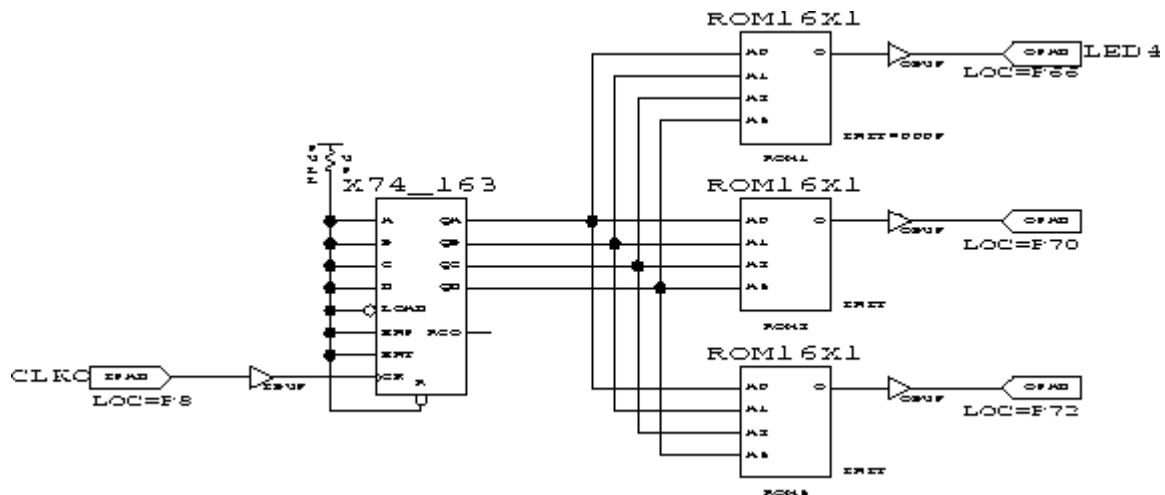

Figure 4: Three ROMs
We have entered and compiled the circuit in Figure 4, a four-bit counter driving the addresses of three sixteen-bit ROMs. Your task will be to use both channels of the oscilloscope to observe the outputs of ROM2 and ROM3 and deduce their contents, using the contents of ROM1 as a starting point.
2. Carefully connect each probe's "hook" to one of the wire-wrap pins connected to a Xilinx pin connected to a ROM's output. **Be careful not to short together two pins, and don't let the probe bend the pin.** Connect Channel 1 of the oscilloscope to the output of ROM1, whose contents are 000D (ignore the label INIT=000F in Figure 4), and connect Channel 2 to the output of one of the others.